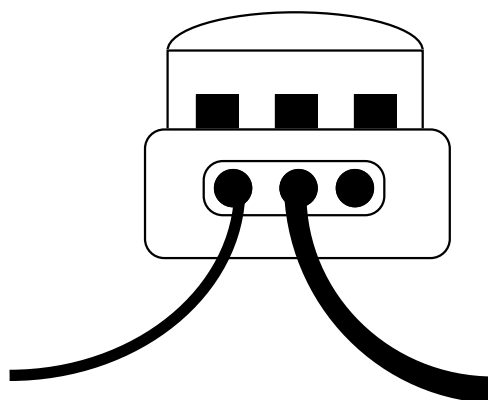

FIGURE 2
- Step 4.** Insert one wire into opening on connector and insert other wire into another opening on connector. Using the appropriate pliers, press blue section of connector firmly into the clear housing. One connector per connection is used. (See figure2).